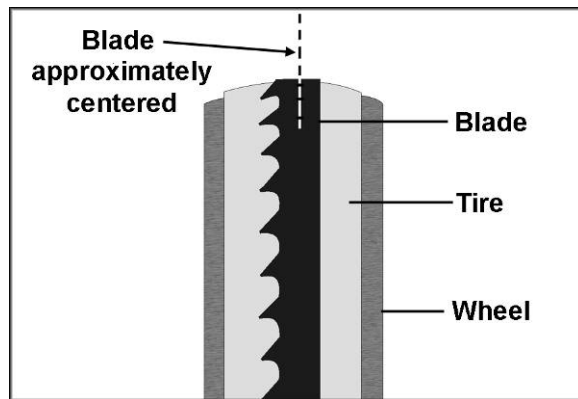

Figure 27
5. Open upper door to expose the upper wheel. Rotate the wheel by hand, and observe the position of the blade on the wheel through the tracking window. As you rotate the wheel, move the lever to "Full Tension" position. The blade should continue to ride upon the center of the wheel (Figure 27).